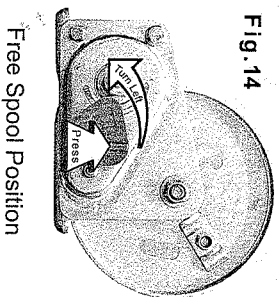

Fig. 14
- 2). Press Handle Knob in the direction of arrow (Fig. 14).